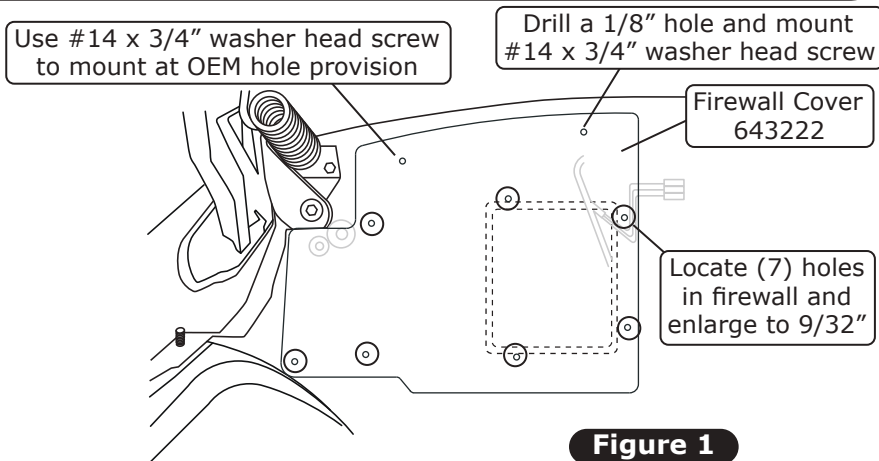

Figure 1
3. Place the firewall cover onto the firewall. Locate the (7) mounting holes and enlarge the holes in the firewall to 9/32" to accommodate the 1/4-20 x 3/4" serrated flange black bolts (See Figure 1, below).
4. Drill a 1/8" hole for an additional mounting location (See Figure 1, below). This is to be mounted in place by a supplied #14 x 3/4" washer head screw. Use a second supplied #14 x 3/4" washer head screw to mount at the OEM hole provision (See Figure 1, below).